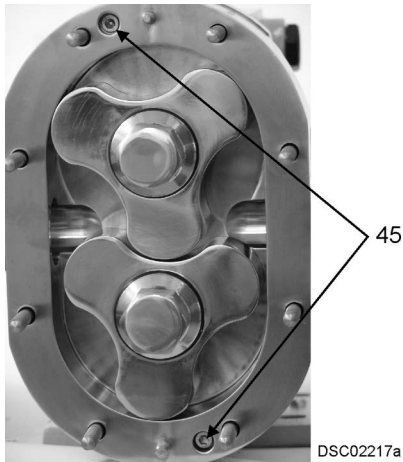

Figure 32 - Location of Cap Screws
1. Remove the two body retaining cap screws (Figure 32, item 45).